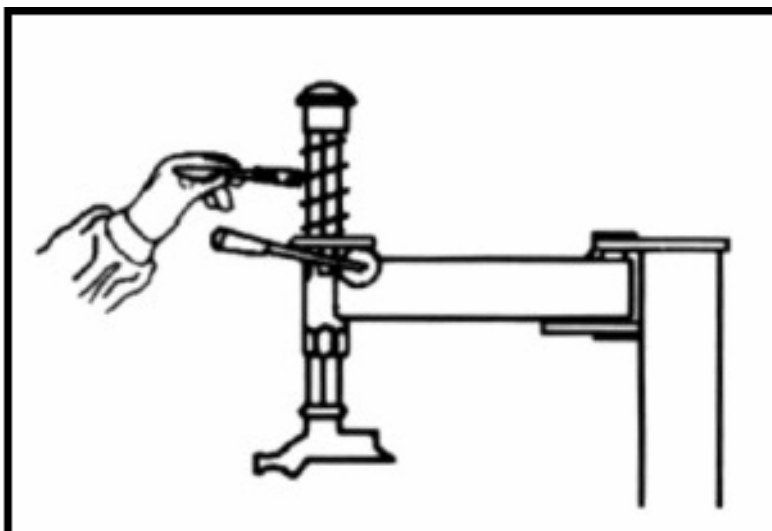

Fig 8
- \*Keep the hexagonal vertical axle clean and lubricate it periodically. (Fig 8)